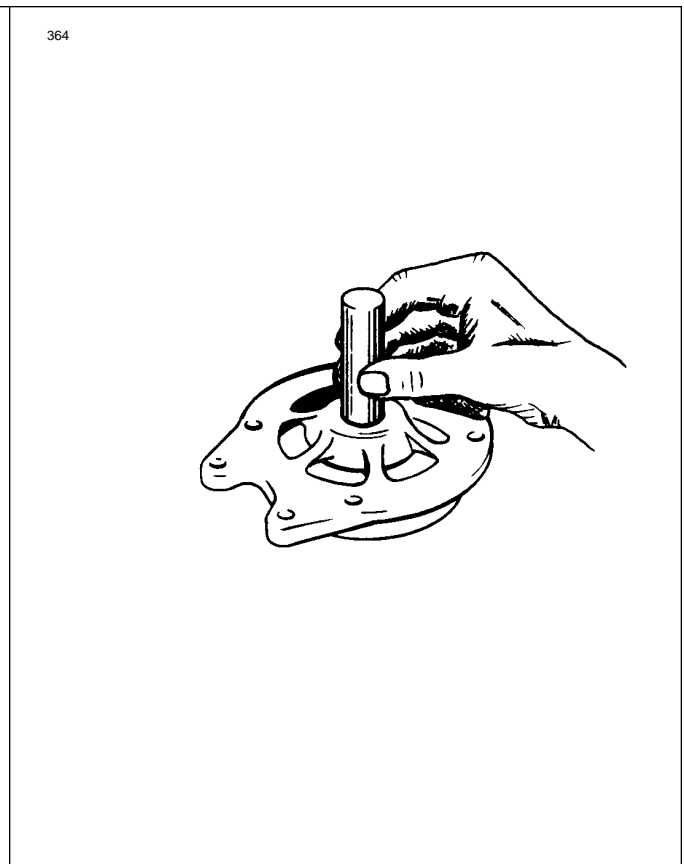

Figure 11-7 Removal of End Head Bearing
f. To remove the drive end head from the rotor shaft, use a puller that grips on the bearing retainer plate as shown in Figure 11-7. Do not attempt to remove by supporting the end head and pressing on the shaft, as this may result in distortion of the end head or stripping of the retainer plate screws. Remove the three retainer plate screws and press the bearing out of the end head. (Refer to Figure 11-7.)